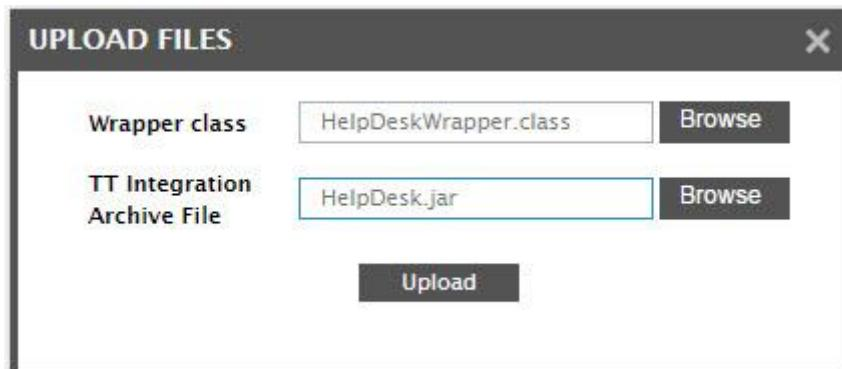

Figure 5.11: Uploading the TT integration wrapper class and supporting jar file of the new TT system
8. Figure 5.11 will then appear. Use the **Browse** button against **Wrapper class** in Figure 5.11 to locate the TT integration wrapper class that you had written for integrating with the new TT system (refer to Section 5.6.3). Likewise, use the **Browse** button against **TT Integration Archive File** in Figure 5.11 to locate the supporting files that you had jarred (refer to Section 5.6.4).
To upload both the archive file and the wrapper class, click the **Upload** button in Figure 5.11.